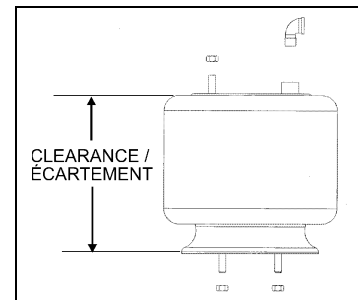

FIGURE 2: CLEARANCE
*The normal ride height is obtained by measuring the clearance of the air springs. The clearance should be 11 ½" ± ¼" for the air springs installed on the drive axle. The measure should be taken from under the upper air spring support on subframe to top of the lower air spring support on axle. See figure 2.*